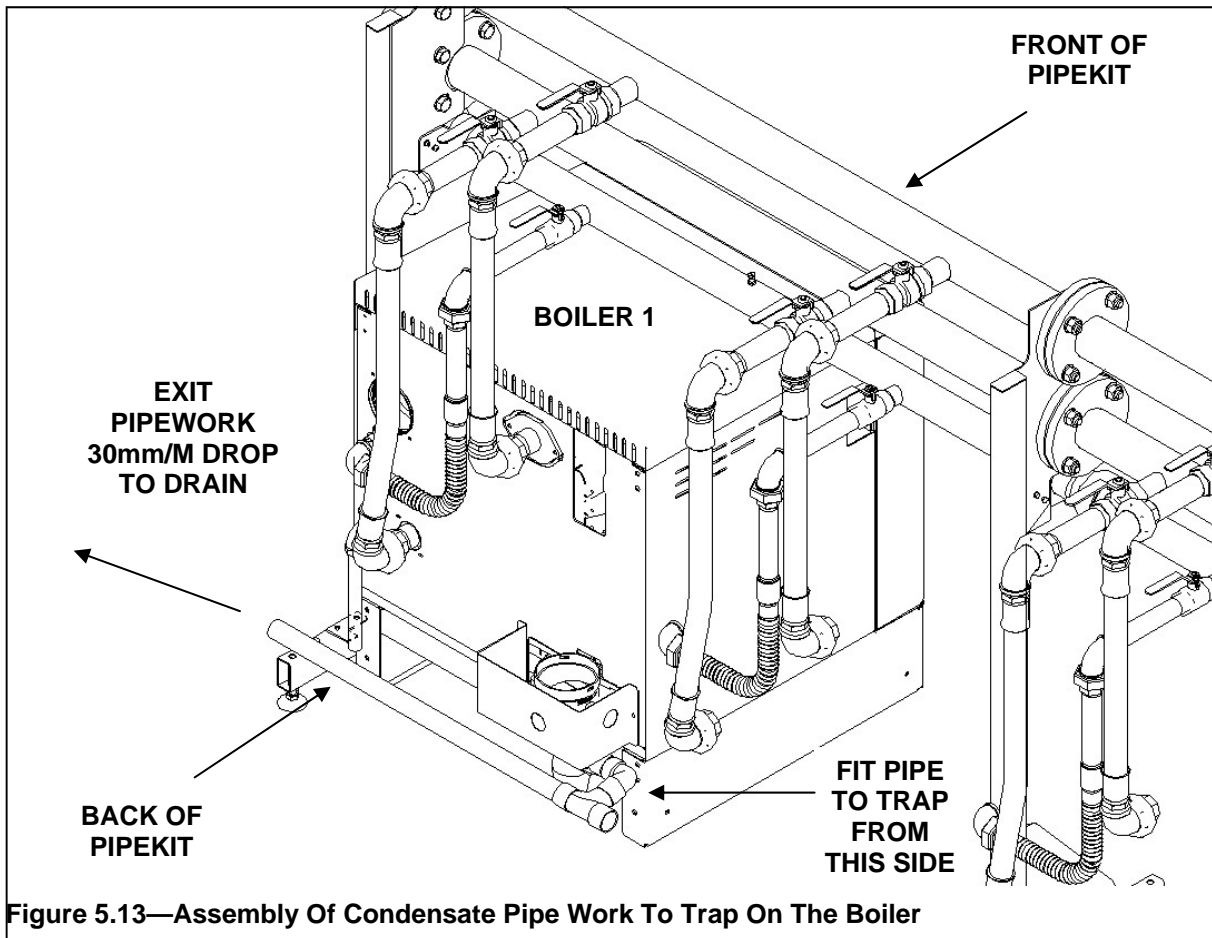

Figure 5.13—Assembly Of Condensate Pipe Work To Trap On The Boiler
5.32 Assemble the condensate pipe work with solvent & connect to the bottle trap from the right hand side of the boiler as shown in figure 5.13 below.